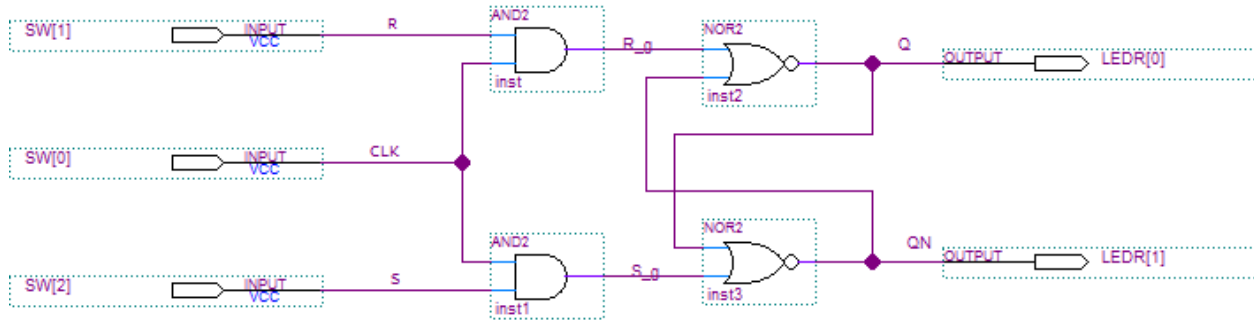

Figure 1. A transparent SR latch circuit
Analyze the cross-coupled NOR gates of the Transparent (called “Gated” by Roth) SR Latch in Figure 1 with inputs R_g and S_g and outputs Q and Q_N . Construct a truth table with inputs $R_g(t)$, $S_g(t)$ and $Q(t)$ and outputs $Q(t+\Delta t)$ and $Q_N(t+\Delta t)$, where Δt is the time required for a change of state to occur. Ignore the case when $S_g(t) = R_g(t) = 1$.
Altera FPGAs include flip-flops that are available for implementing a user’s circuit. We will show how to make use of these flip-flops in Part IV of this exercise. But first we will show how storage elements can be created in an FPGA without using its dedicated flip-flops. Figure 1 shows a transparent SR latch circuit built from gates.
2. Draw the schematic shown in Figure 1.